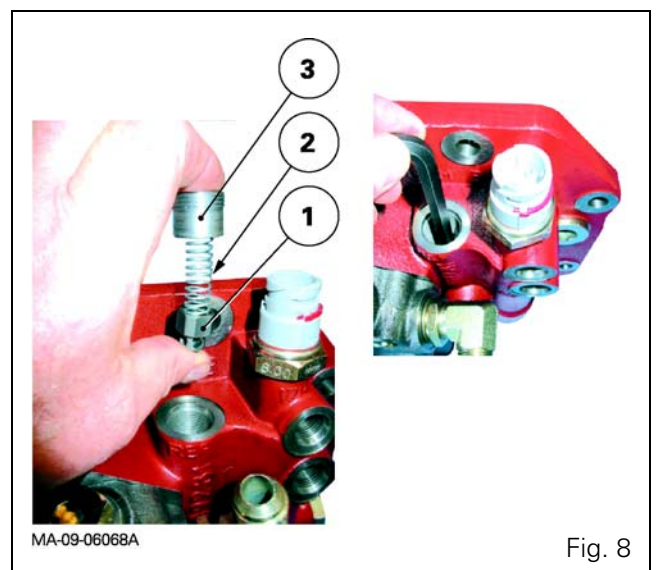

Fig. 8
- 14. Place the valve (1), spring (2) and threaded ring (3) in the cover (Fig. 8).
- 15. Compress the spring, tightening the threaded bush until it reaches a "hard point" (Fig. 8 - the bush has reached the cover shoulder).